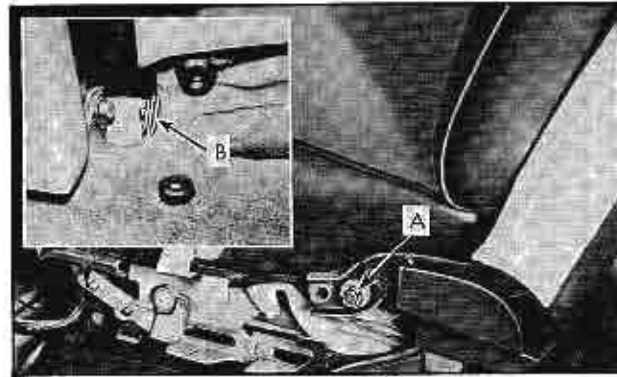

Fig. 3-68 Front Seat Back Removal (Coupe)
2. Remove cotter pin and cup-washer from seat back outer hinge pin, indicated at "A" in Fig. 3-68.
5. Remove fiber-washer indicated at "B" in inset of Fig. 3-68.